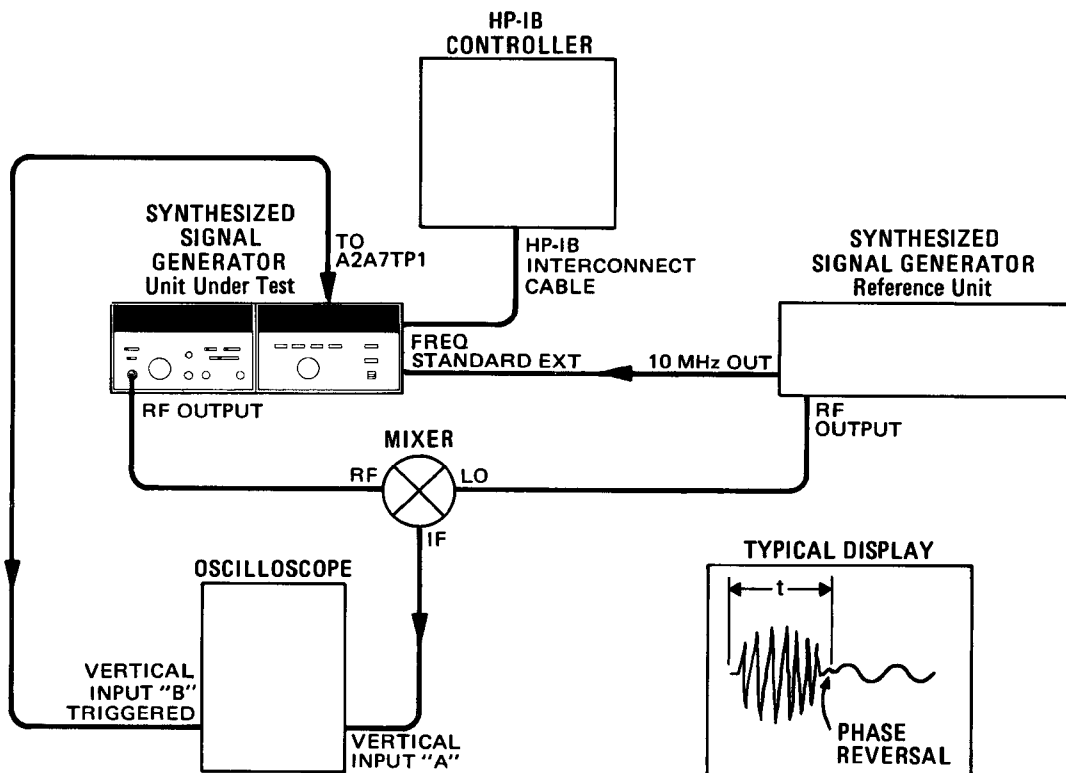

Figure 4-13. Frequency Switching Time Test Setup
- 14. Measure the switching time by observing the signal on the oscilloscope display. (The Frequency Execute program code triggers the oscilloscope's horizontal sweep. Therefore, the timing begins at the display's left graticule. The timing ends at the last phase reversal as the IF signal settles into a steady frequency. Refer to Figure 4-13. This should occur in less than 15 ms.